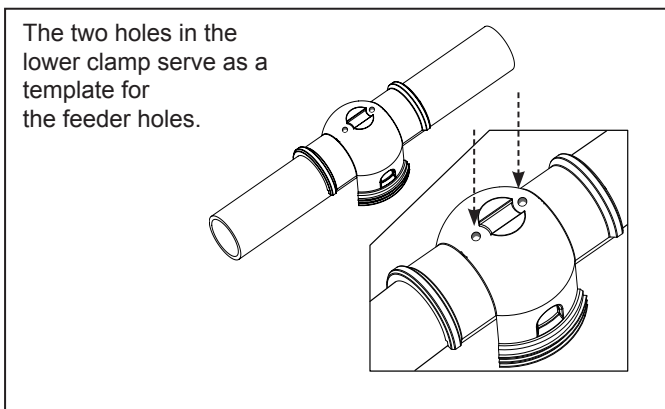

Figure 6. Marking Pipe for Drilling Feeder Holes
6. Invert the lower clamps and place on the pipe. Mark the pipe for drilling the feeder holes (see Figure 6).